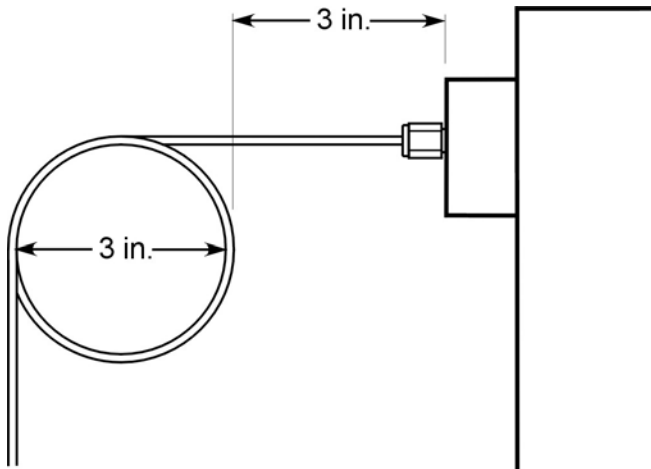

Figure 11. Tubing strain-relief loop.
1. Make a tubing strain relief by forming an approximate 3-in. diameter loop in the tubing so that it is approximately 3 in. from the end of the tubing closest to the Clarus 500 GC as shown in Figure 11. Make this strain relief on all gas lines.